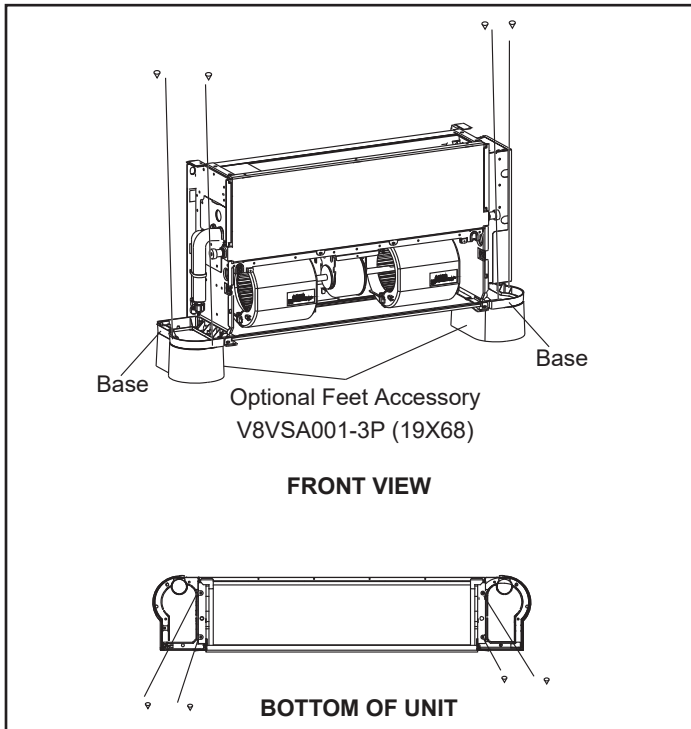

**Figure 2. Secure to Wall**
1. Mark the locations of the screws on the wall and use suitable fasteners to secure the four mounting holes to the wall. See Figure 2, and the dimension drawings on Page 4 to ensure proper positioning of the unit.